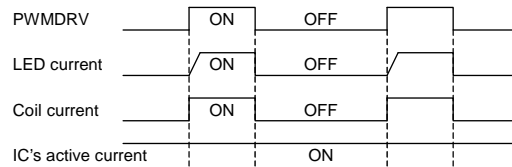

Fig.30 PWMDRV sequence
- 1) Current driver PWM control is controlled by providing PWM signal to PWMDRV, as it is shown Fig.30. The current set up with ISET is chosen as the H section of PWMDRV and the current is off as the L section. Therefore, the average LED current is increasing in proportion to duty cycle of PWMDRV signal. This method that it lets internal circuit and DC/DC to work, because it becomes to switch the driver, the current tolerance is a few when the PWM brightness is adjusted, so it makes it possible to brightness control until $5\mu\text{s}$ (MIN0.1% at 200Hz). And, don't use for the brightness control, because effect of ISET changeover is big under $1\mu\text{s}$ ON time and under $1\mu\text{s}$ OFF time. Typical PWM frequency is 100Hz~25kHz.